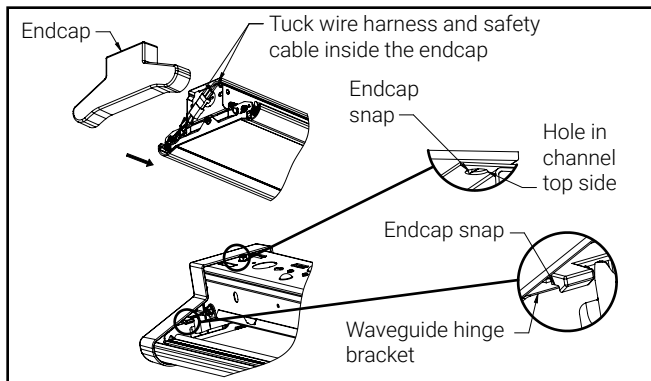

Figure 6
- Remove protective film from the waveguide. Remove endcaps from parts box, install onto fixture. Tuck wire harnesses and safety cable while installing. Endcap snaps (3 places) must fully engaged onto waveguide bracket and channel. First place the bottom end cap over the waveguide then rotate the end cap to vertical position and press to engage snaps. (Figure 6)